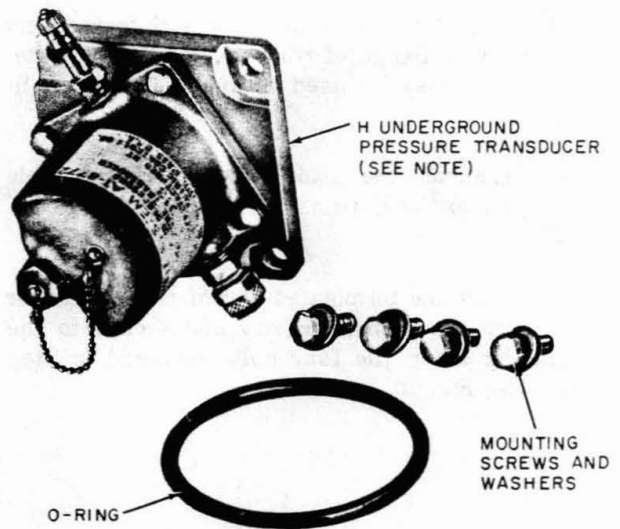

Fig. 17—H Underground Pressure Transducer
9.01 When additional transducers are required for an existing E Pressure Transducer System installation and there are blank cavities available in the B transducer housing, H transducers may be installed in the vacant cavities. *The H transducer consists of an F transducer equipped with an adaptor plate and O ring (Fig. 17).*